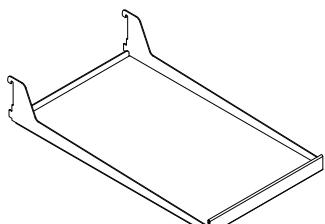

Figure 14
(2) frame and flat glass shelf. (See Figure 14).
(1) half width flat glass cantilever shelf. (See Figure 14).